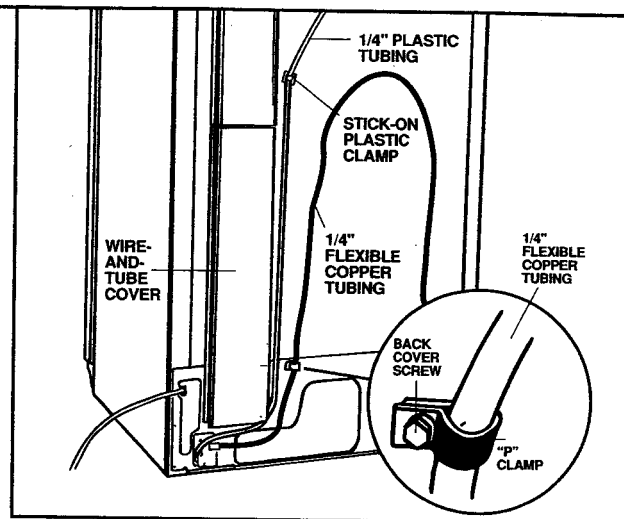

Figure 26
h. Re-install the lower half of the vertical wire-and-tube cover on exterior rear surface of the cabinet. To avoid pinching wires, carefully tuck the wires inside the cover. Secure the covers by reusing *all* original screws. See Figure 26.
Secure the 1/4-inch flexible copper tubing with the "P" clamp at the back horizontal cover, using the existing cover screw. See Figure 26.
j. Secure the 1/4-inch flexible plastic tubing to the rear wall of the refrigerator cabinet using the plastic stick-on clamp. See Figure 26.